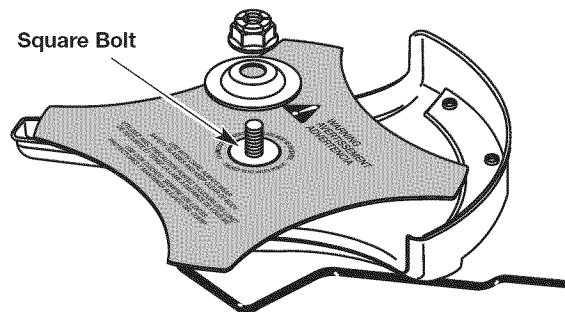

Fig. 16
2. Make sure that the cutting blade is centered on the pilot step and sitting flat against the output shaft bushing (Fig. 16).